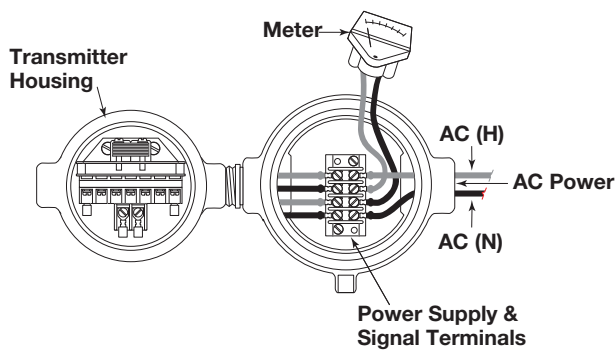

Figure 8
4. Connect the hot and neutral wires to the outer terminals on the terminal strip. Connect the ground wire to the green ground screw at the base of the housing. Refer to Figure 8.